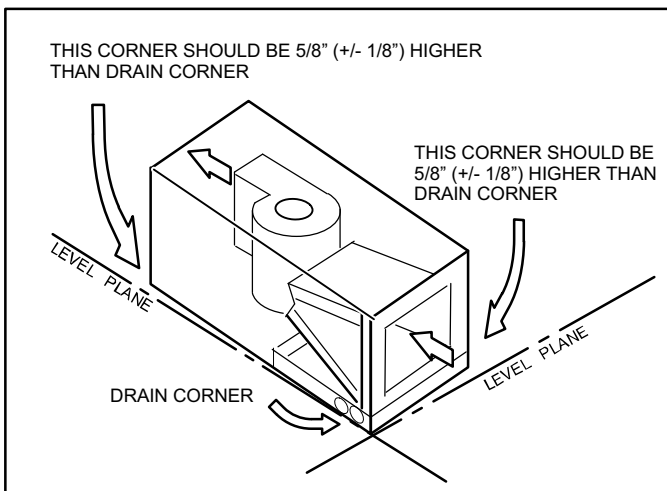

Figure 9. Sloping the Unit for Proper Drainage
- 3 - Set unit so that it is sloped toward the end of the unit with the drain pan (see figure 9).
Make sure the unit is sloped (similar to the slope shown in figure 9) (horizontal or upflow) so that the drain pan will empty completely without water standing in the pan.